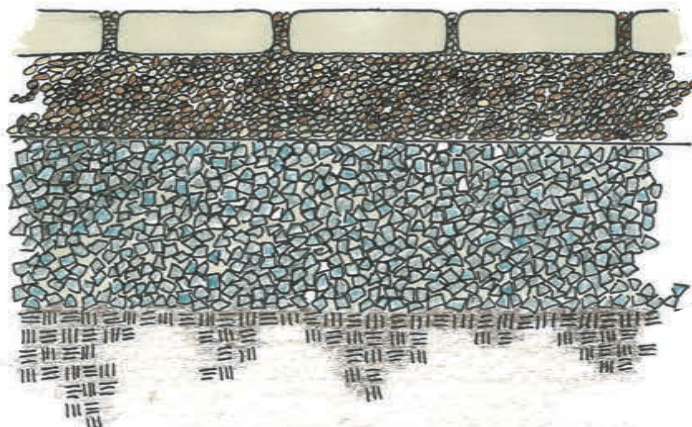

Figure 1 – Pervious walkway profile.
- b. Sub-base materials (Figure 1) are the 1½-inch stone and pea stone layers that go under the pavers. These materials provide a reservoir for stormwater before it soaks into the ground underneath. You should have a minimum depth of 12 inches of 1½-inch diameter washed stone and six inches of ¾-inch pea stone for your sub-base. Use the following equations to determine the minimum amount of sub-base materials you will need (multiplying by 0.037 converts cubic feet to cubic yards):